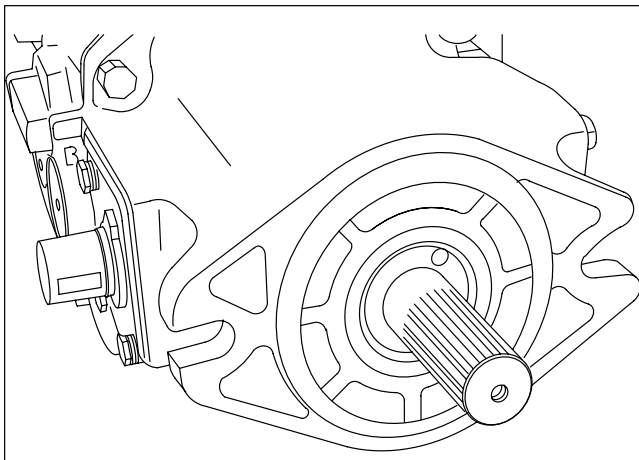

Figure 6. Pump Pilot Flange.
1. **Direct Mounting** - A pilot on the pump mounting flange (Figure 6) assures correct mounting and shaft alignment. Make sure the pilot is firmly seated in the accessory pad of the power source. Care should be exercised in tightening the mounting screw to prevent misalignment.